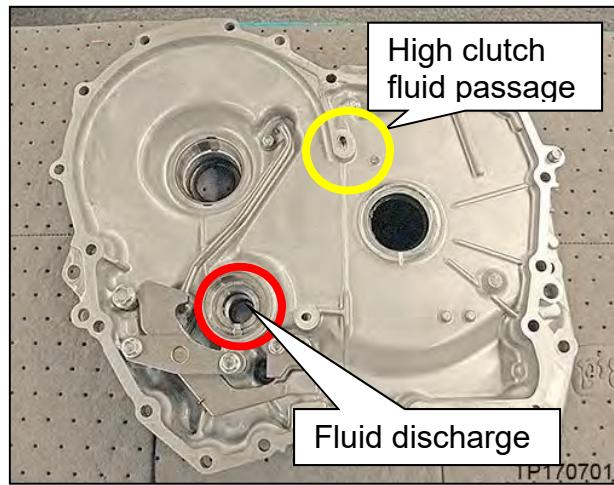

Figure 116
- To avoid the risk of minor personal injury, take care when cleaning passages as brake cleaner will exit the passage shown as "fluid discharge" in Figure 116.